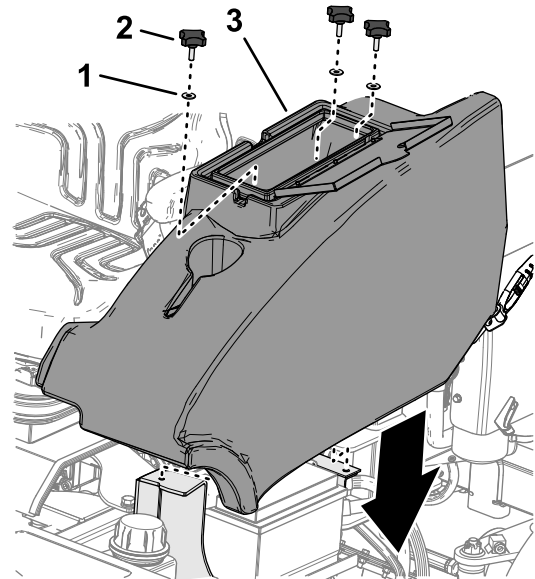

Figure 46
- Assemble the storage compartment to the machine with the 3 knobs and 3 washers (Figure 46)